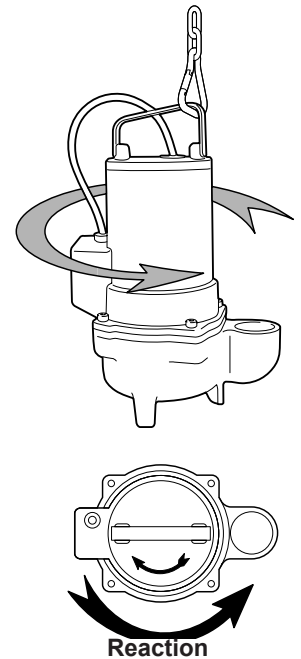

Fig. 12 Reaction
- The correct direction is indicated by harrows on the electric pump cover and pump body. If the kick-back has been anticlockwise viewing the electric pump from above, then the rotation direction is correct (fig.12)